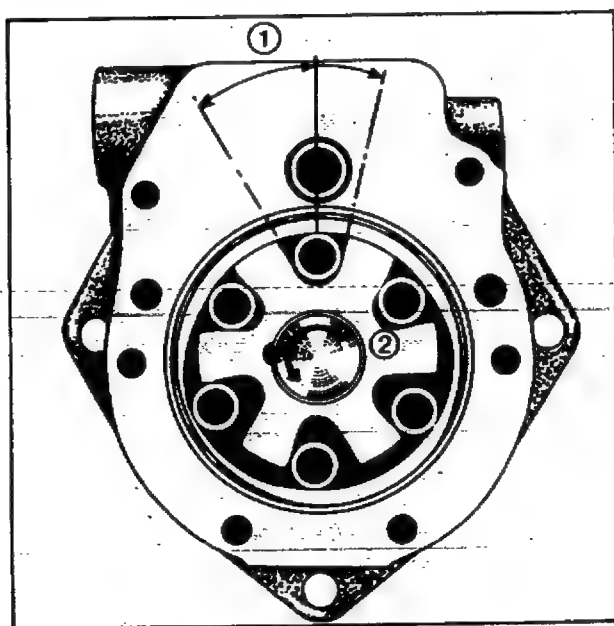

Fig. 16
7. Inspect the carrier and fit to the shaft. When viewed from the cover end, the shaft rotates anti-clockwise. The carrier must be installed so that the flank inclined at the greater angle is leading (see Fig. 16).